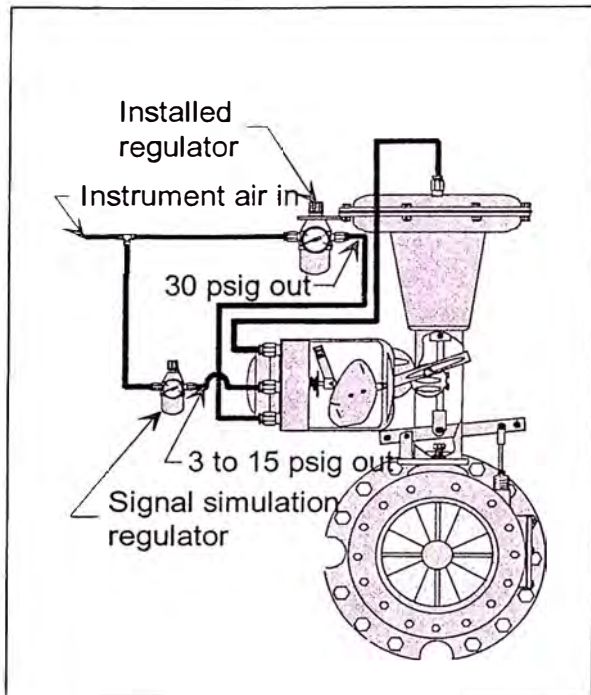

Figure 2-7. Test set up
1. The procedure that follows calibrates the positioner zero and span. At the completion of this procedure the IGV will be controllable between full open to full closed with signal pressures between 9 and 15 PSIG (or 3 and 15 PSIG). The controller output is the desired source of signal air in performing the zero and span calibration. If the controller signal is not available, set up a test source. Figure 2-7 illustrates one method of providing signal air. Providing 30 PSIG supply air to the positioner and variable pressure signal air is required throughout the zero and span procedure.